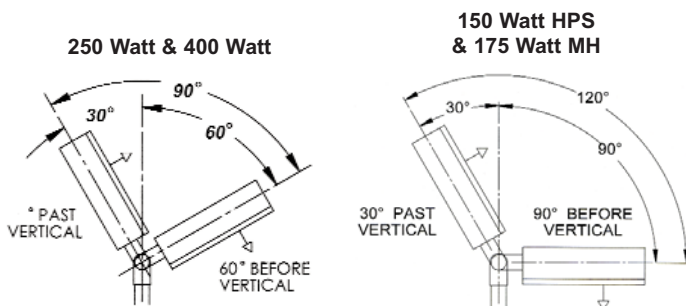

Figure 7 - Final Vertical Adjustment
7. To make final vertical adjustment, loosen the two pivot bolts on the floodlight yoke to position floodlight at the desired angle (within the acceptable aiming range limits). See Figure 7. Tighten the two pivot bolts to 45 lbs-in.